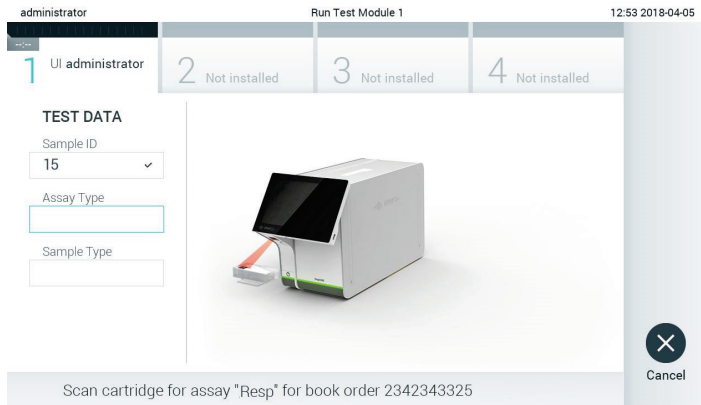

Figure 71. Scanning the QIAstat-Dx assay cartridge bar code.
- When the test order has been successfully received from the host, “Scan cartridge for assay <assay_name> and book order <order_number>” is displayed. Scan the bar code of the specified QIAstat-Dx assay cartridge (Figure 71, next page).